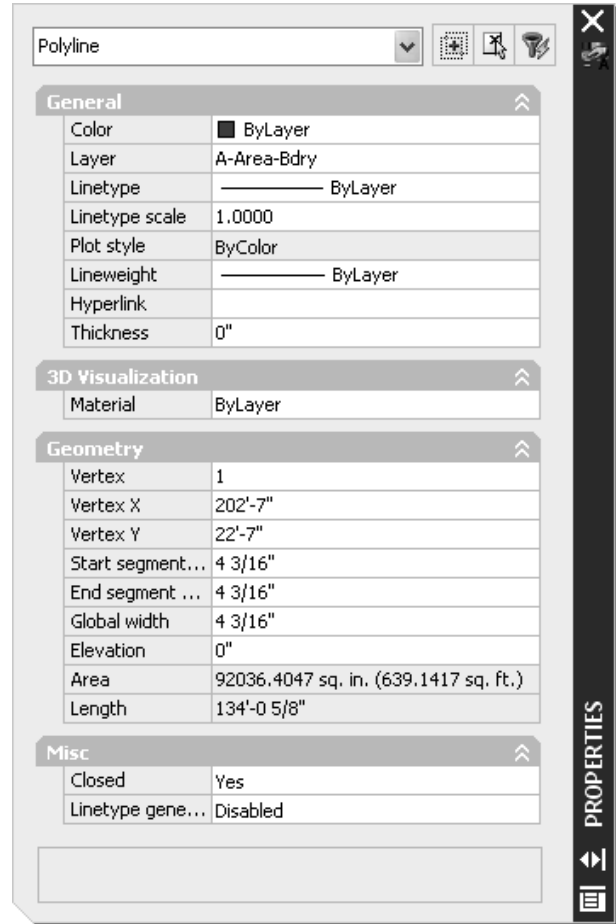

Figure 3-4.2 Polyline properties
7. Notice the **Area** and **Length** (which is the Perimeter in this case) properties listed (Figure 3-4.2).